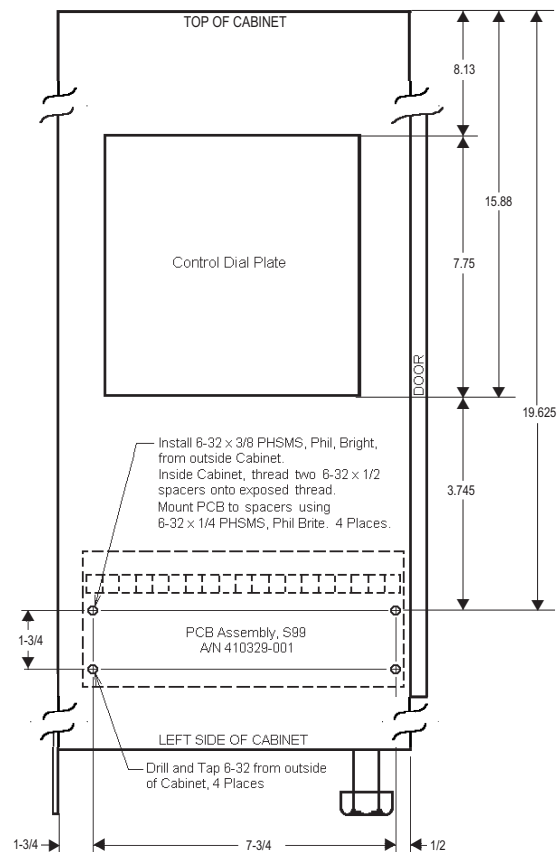

Figure 5-3. S99 Mounting detail for “L”, “H”, “G”, or “U” Cabinet
3. Remove the four (4) screws mounting the Terminal Strip Input Board (A/N 410329) to the cabinet. Rotate the Board 180° (so the terminal strip is at the top) and re-mount the Board using the same four (4) screws.
4. Drill and tap the left side of the cabinet per Figure 5-3, be sure to vacuum or otherwise remove **ALL** metal chips before installing four (4) 6-32 x 3/8 PHSMS, Phil., Brite from outside of cabinet. On the inside of the cabinet, mount two (2) 6-32 x 1/2 spacers (P/N 555031) on each exposed thread (4 places) to offset PCB 1" from cabinet wall.
5. Mount S99 PCB (A/N 410329-001) to spacers using four (4) 6-32 x 1/4 PHSMS, Phil., Brite. See Figure 5-3.